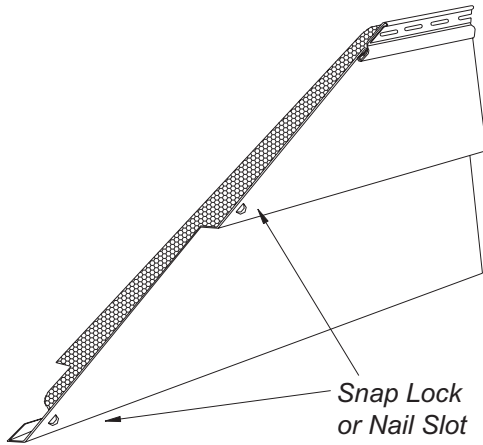

Figure 11.
- **Back Plate and Finish Board-** When installing with Back Plate and Finish Board or Crown Molding, Use a nail slot punch to create nail slots at the end of the angle along the cut edge. Install the panel in the gable and fasten both at the nail hem as well as in the slot created by the slot punch (Fig. 11).
- **Install 1-1/8” J channel** under overhang or eave. When installing with J channel, use a snap lock punch to create a locking tab at the bottom of the panel at the cut edge of the angle. Install the panel locking the tab into the J channel (Fig. 11).